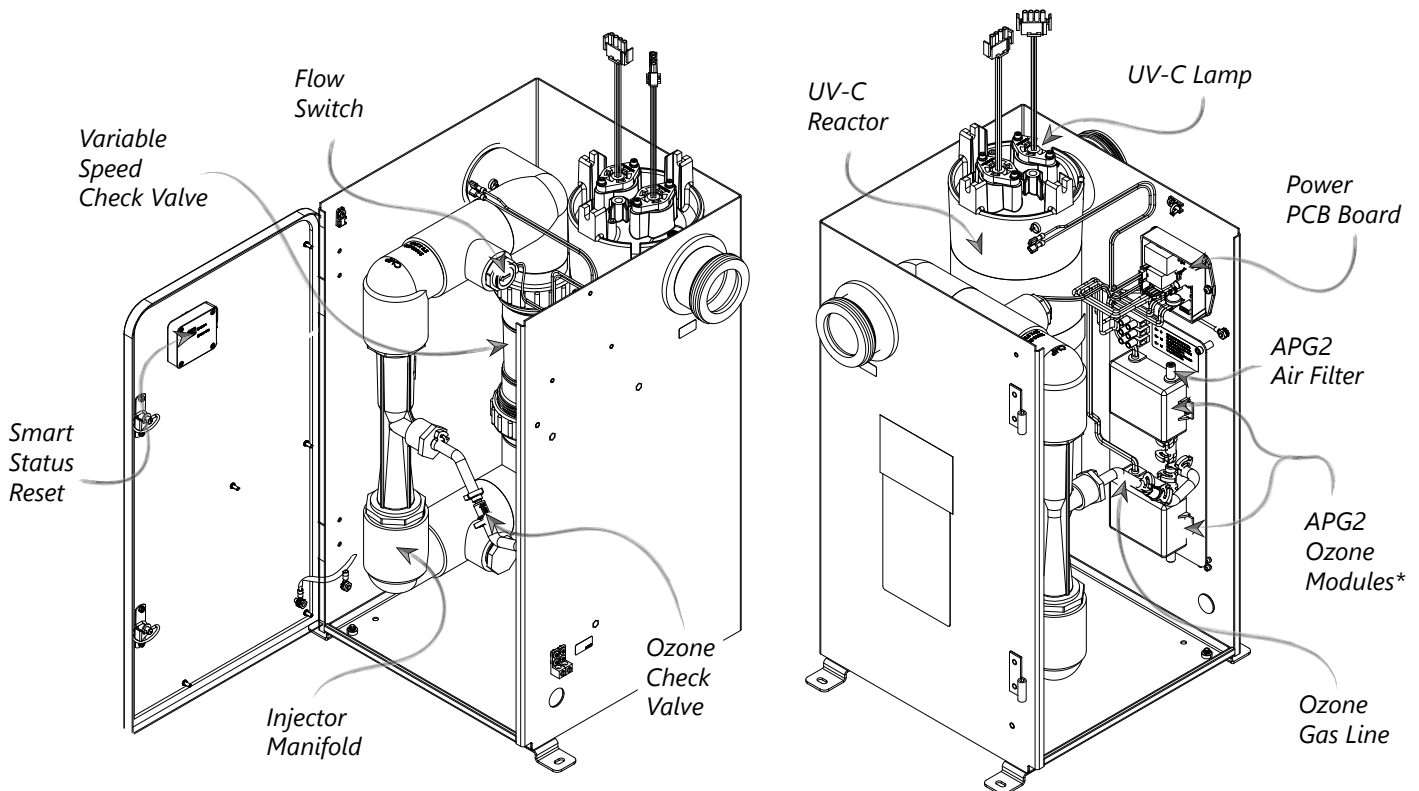
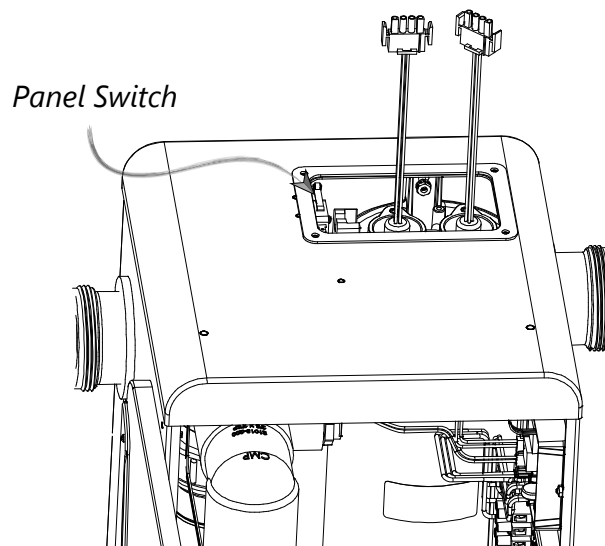

Figure 10: DEL AOP Electro-Mechanical Overview (AOP 40 Shown)
Figure 12: Panel Switch Protection for UV Lamps
Gas from the ozone modules is drawn through the ozone gas line by the injector and into the water. The ozone check valve (refer to Figure 12) in this line prevents water from migrating back to the ozone modules when the DEL AOP is not running.
This component connects the ozone gas line to the injector manifold (refer to Figure 12). When servicing this component, do not tighten past 10 in-lbs torque or the component may be damaged.
There are two lamps in each Del AOP unit. The violet UV-C light on system smart status LEDs indicates UV lamps are operating properly (see Fig 10). If the UV lamp access panel is removed while the unit is running, the unit will be shut down automatically. (see Fig 12). The lamps are each housed in a quartz tube that protects the lamp.
8. Reset ozone indicator by pressing button on the inside door behind the Smart Status indicators. (Fig 10)
5. Reset UV indicator by pressing button on the inside door behind the Smart Status indicators. (Fig 10)